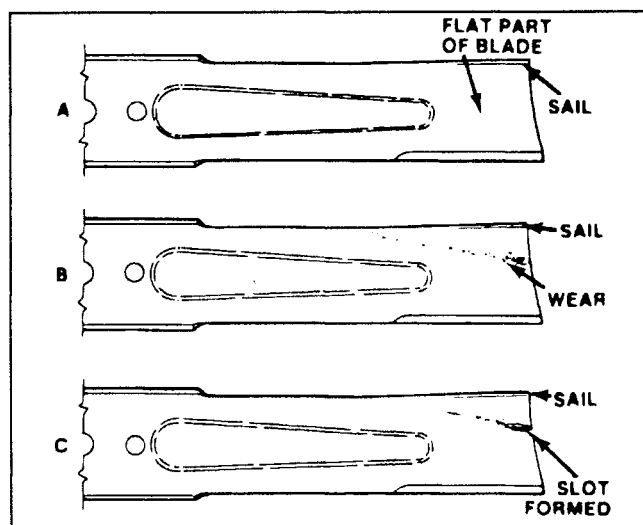

Figure 14
- Examine cutting ends of the blade carefully, especially where the flat and curved parts of the blade meet (Fig. 14–A). Since sand and abrasive material can wear away the metal that connects the flat and curved parts of the blade, check the blade before using the mower. If wear is noticed (Fig. 14–B), replace the blade.
If blade is allowed to wear, a slot will form between the sail and flat part of the blade (Fig. 14-C). Eventually a piece of the blade may break off and be thrown from under the housing, possibly resulting in serious injury to yourself or bystander.